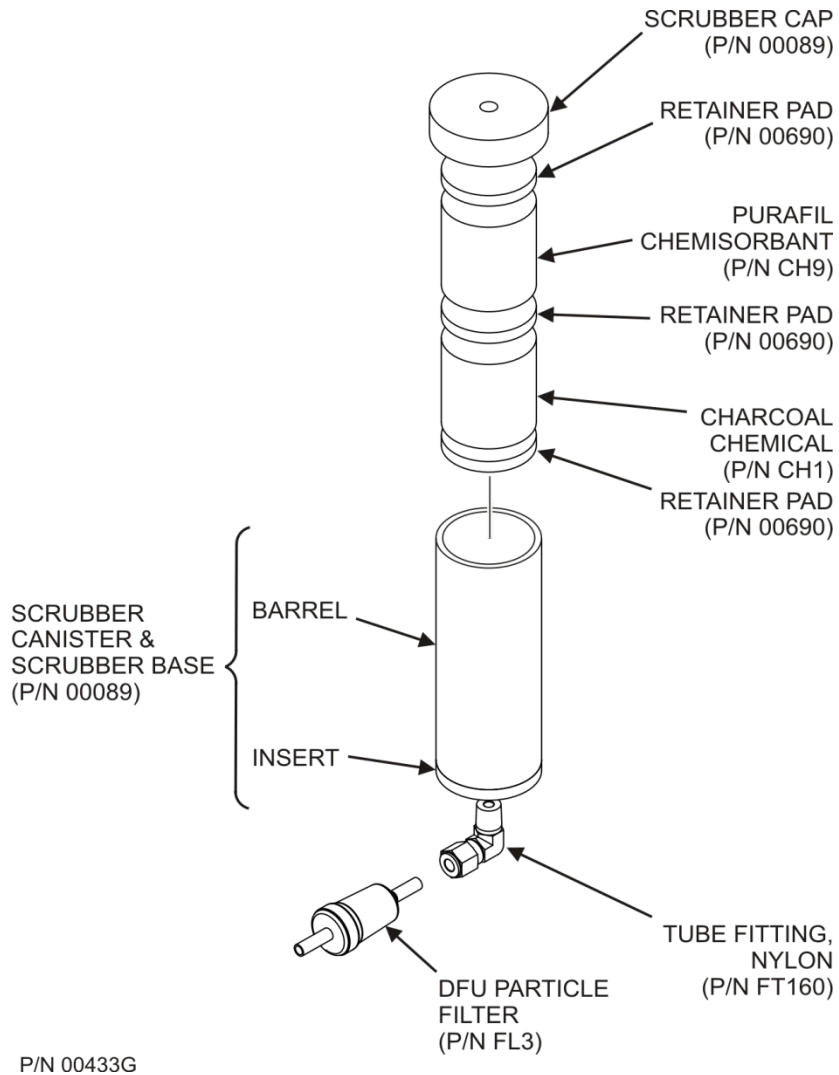

Figure 5-9. Zero Air Scrubber Assembly
1. Locate the scrubber on the outside rear panel; Figure 5-9 shows the exploded assembly.
- Use three, white retainer pads to separate the chemicals as shown in Figure 5-9.
9. If necessary, replace the filter (DFU, Figure 5-9) with a new unit and discard the old. (The bottom retainer pad should catch most of the dust; the filter should not be visibly dirty on the inside).